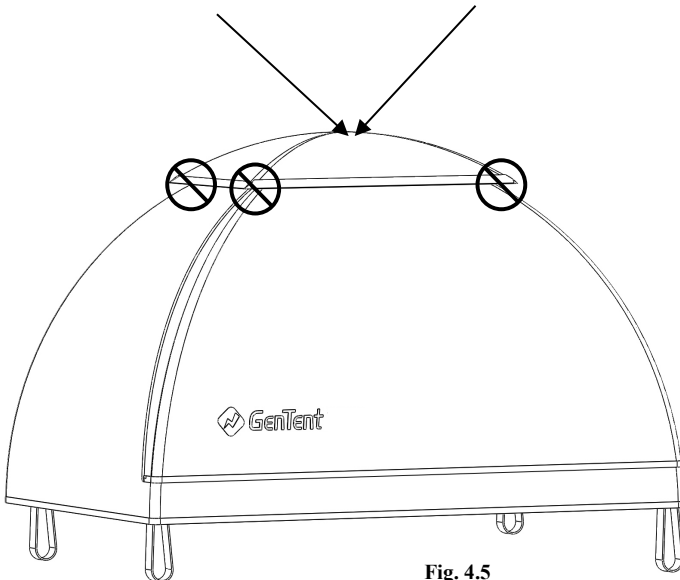

Fig. 4.5
- d. Take hold of the GenTent by grasping the center of the Canopy top cap (Fig 4.5) and lift straight up, **DO NOT LIFT BY THE TOP CAP CORNERS**. The tension on the strap from the fully assembled GenTent will ensure it keeps its shape.